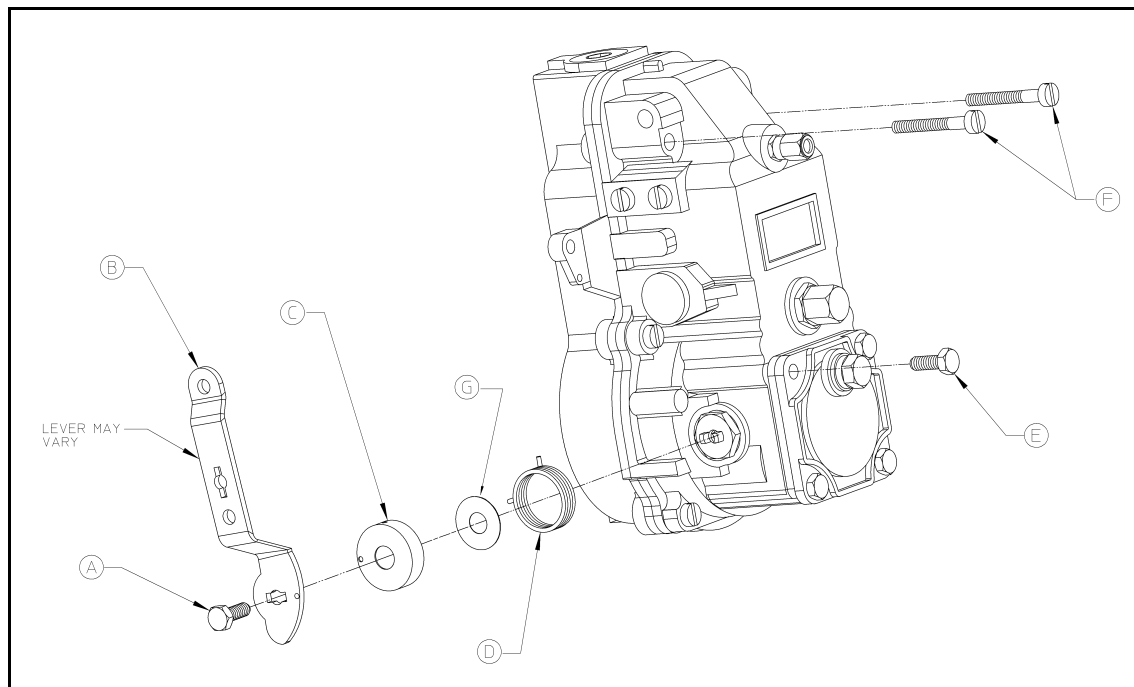

Figure 2. Fuel Pump
| Figure 2. Fuel Pump | 5 |
Refer to **Figure 2**. The shutoff lever (B) and shutoff lever spring (D) will need to be removed. (The shutoff lever spring may have already been removed if the engine was equipped with an ESO.)